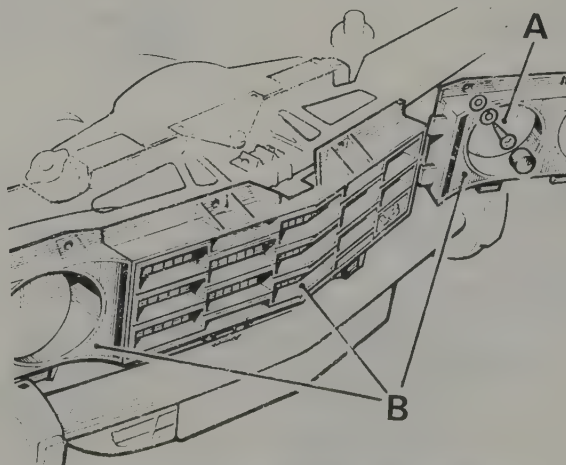

Fig. 1.35. Grille attachment (later models)
- 9 Remove the radiator grille **late models** as described in the following paragraphs 10 to 12 (Fig. 1.35).